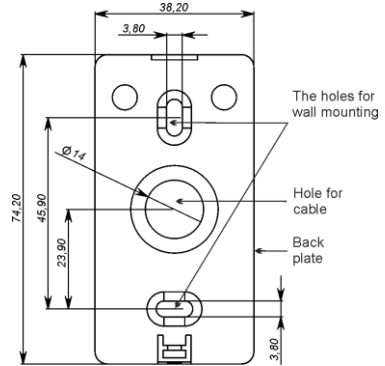

Figure 2
- Mount the back plate of reader on the wall using the fixturing provided (see fig. 2).